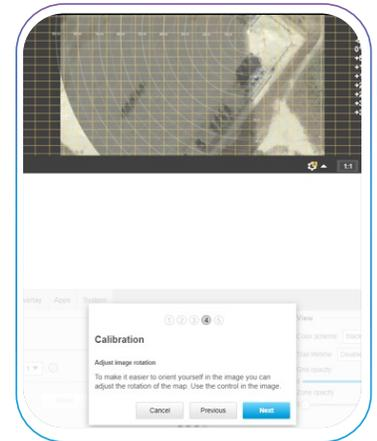

Figure 21. Calibration Step 5 of 5
H. If needed, the image can be cropped (**Figure 21**). After cropping the image or if no cropping is needed click on **Next** to proceed.